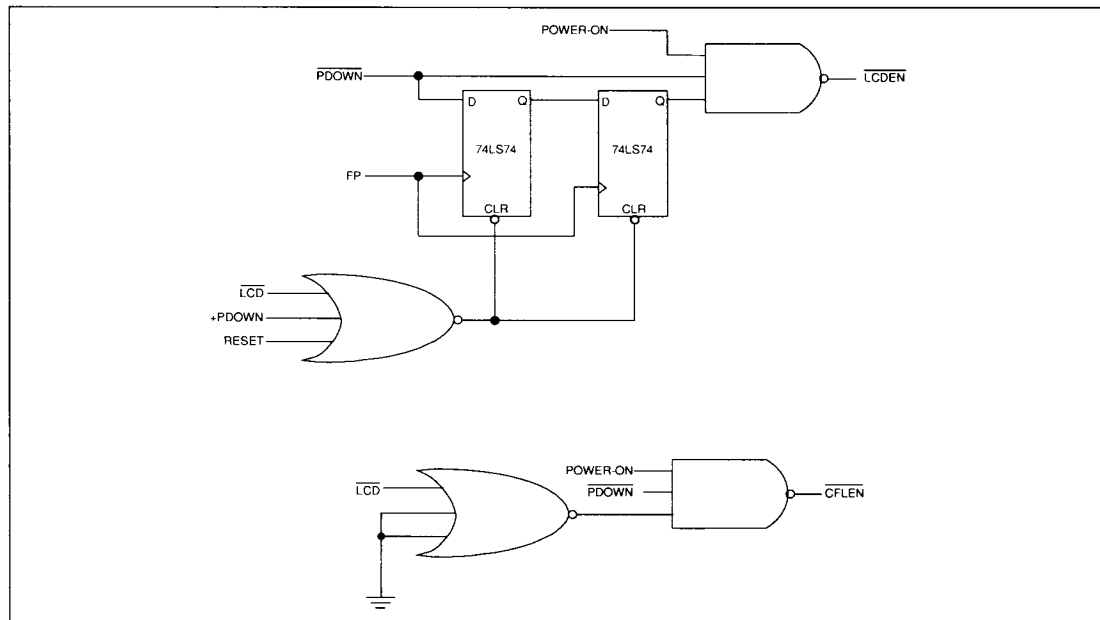

FIGURE 8-1. LCD PANEL CONTROL
8.1 DESCRIPTION OF SIGNALS FOR FIGURE 8-1
Described below are the signals related to the power-on/off control logic in Figure 8-1.